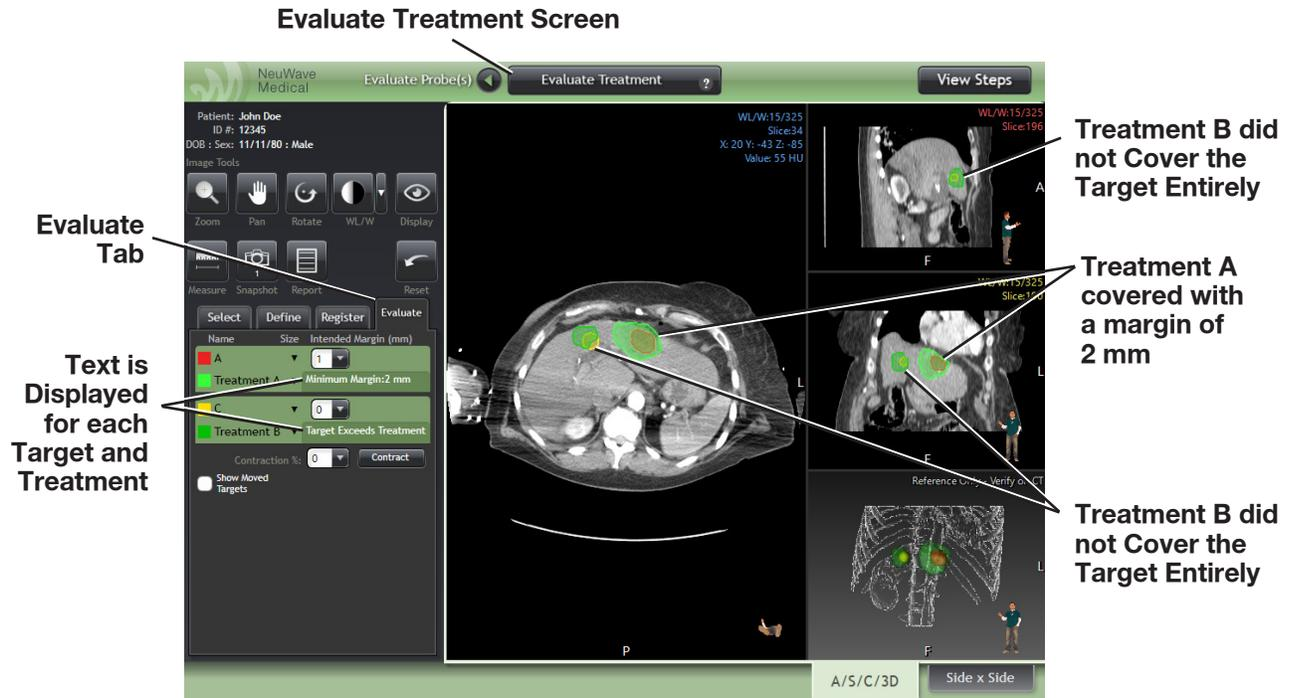

Figure 3-40: Treatment Evaluation Tab and Table.
3. If no ablation probes were present during the post-ablation scanning, the ablation targets and the treatment zone would be displayed as shown in Figure 3-40.
4. If the treatment zone does not cover the lesion, a message on the left side of the screen informs you that the target is larger than the treatment zone: ‘Target Exceeds Treatment’ (Figure 3-40).
5. If the treatment zone does cover the lesion, a message displays the minimum margins (in mm) between the lesion’s edge and the edge of the treatment zone (Figure 3-40).